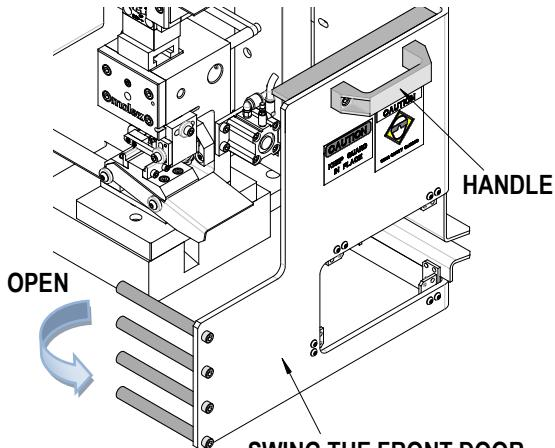

Figure 4-11
1. Open the front door guard assembly by using the handle mounted on the door. Swing the door approximately 90° so there will be access to backside of the guard door in order to mount the Point of Operation Guard Assembly. See Figure 4-11.